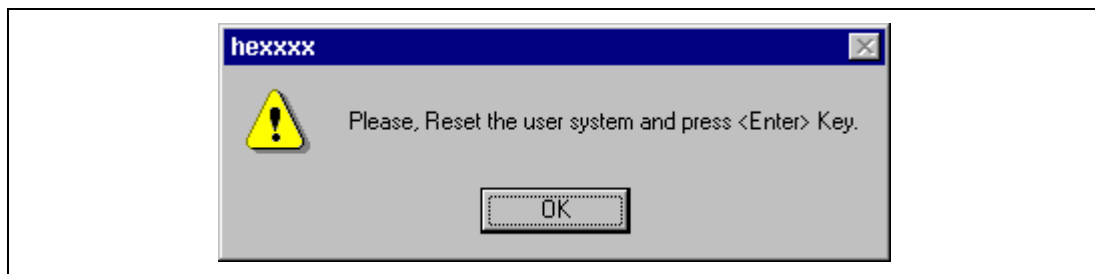

Figure 4.8 Dialog Box of the RESET Signal Input Request Message
(1) The dialog box is displayed as shown in figure 4.8.